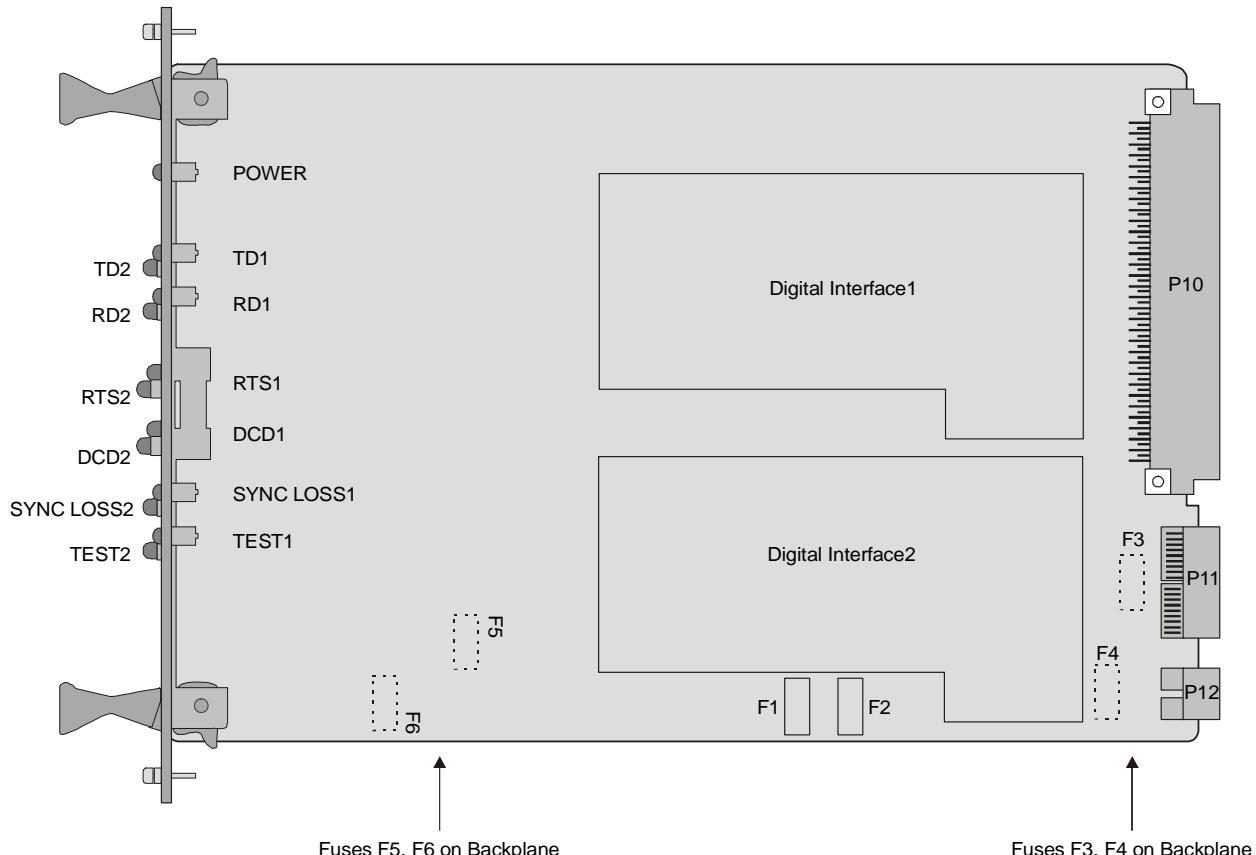

Figure 2-1. Diagram of ASM-40CD PCB
2. Tighten the screws that secure the ASM-40CD module to the LRS-24 frame, for proper grounding of the module panel. The PCB layout of the ASM-40CD card is shown in *Figure 2-1*.
Table 2-2 describes the backplane connectors, shown in *Figure 2-1*.